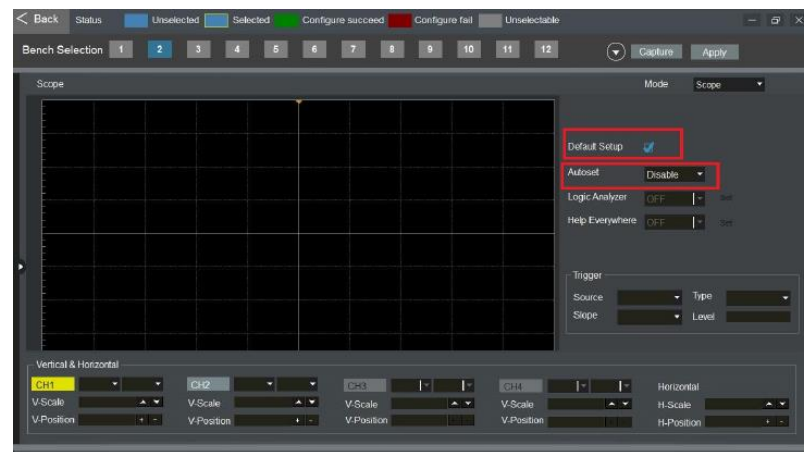

Figure 34. TekSmartLab has setup features to make your job as an instructor easier like centralized instrument configuration..
7. You can easily **Default Setup** the instruments after each lab and disable the **Autoset** feature so that students learn how to make measurements (Figure 34).